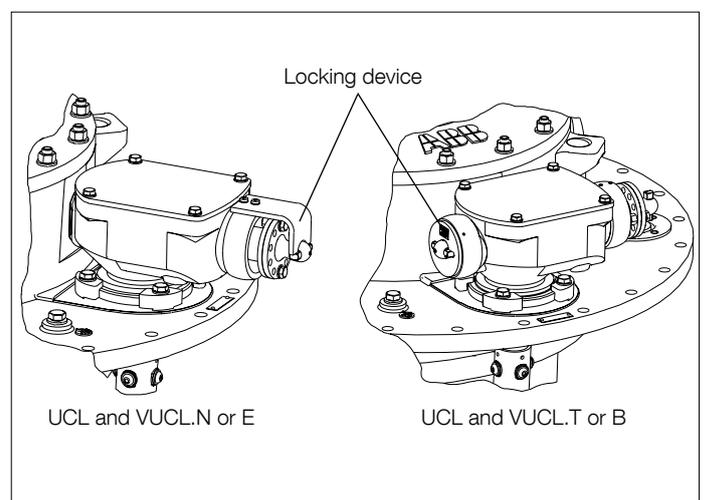

Fig. 22.
1. Remove the locking device from the gear unit on the upper flange; see Fig. 22. Save the locking device for reuse after transformer ratio measurement. Also remove the cover of the bevel gear to access the position indicator. Save all fasteners and the gasket for reuse. Note the position of the tap-changer.